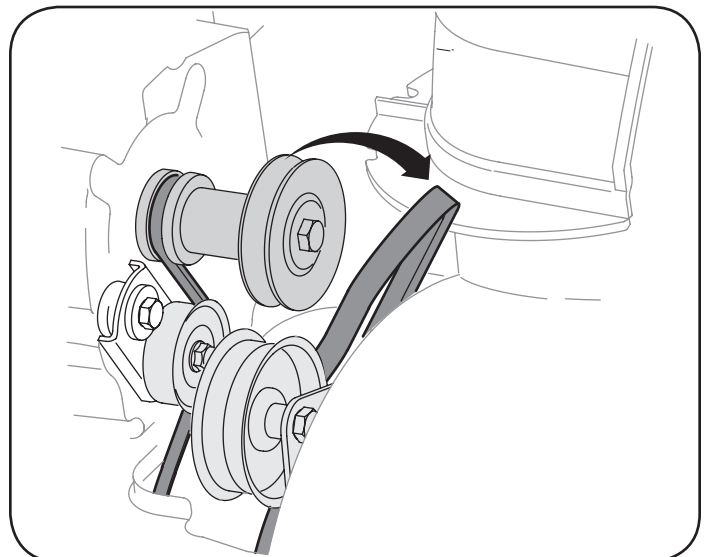

Figure 21
3. Roll the auger belt off the engine pulley. See Figure 21.